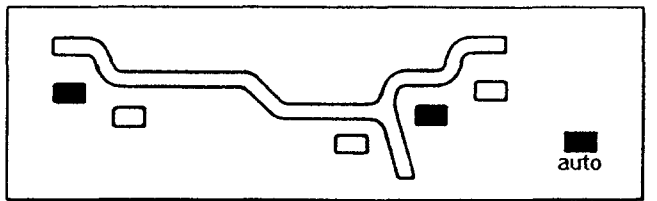

Fig.37
**G. AUTO ALU3.** The wheel weights position is as indicated in Fig.37. In this case use one tape weight on the outside and a clip-on weight on the inner edge.